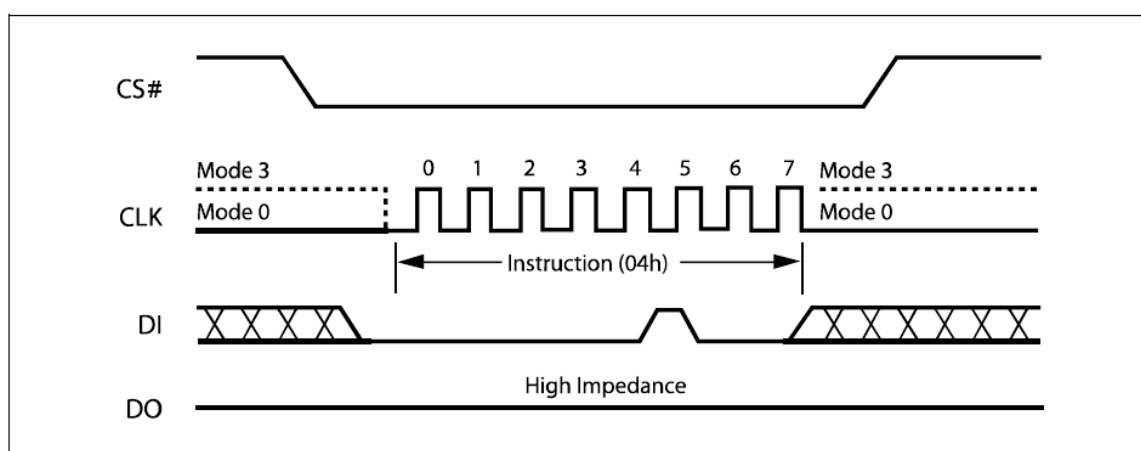

Figure 8. Write Disable Instruction Sequence Diagram
The Write Disable instruction (Figure 8) resets the Write Enable Latch (WEL) bit in the Status Register to a 0 or exit from OTP mode to normal mode. The Write Disable instruction is entered by driving Chip Select (CS#) low, shifting the instruction code “04h” into the DI pin and then driving Chip Select (CS#) high. Note that the WEL bit is automatically reset after Power-up and upon completion of the Write Status Register, Page Program, Sector Erase, Block Erase (BE) and Chip Erase instructions.